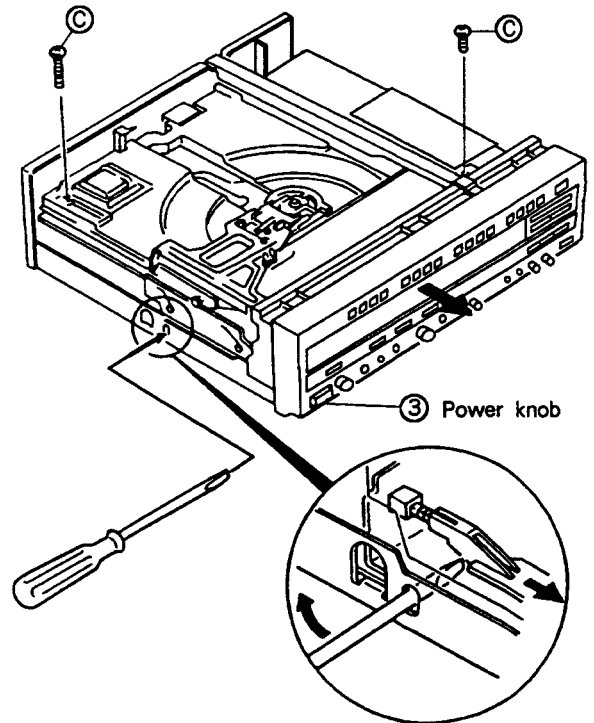

Fig. 7-3
- ③ To remove the power knob, insert the flat-blade screwdriver into the slit on the side of the chassis as shown in Fig. 7-3, and push the protrusion of the knob. You can now remove the power knob easily. (Check that the power switch is in the OFF position before removal.)
7.2 REMOVING THE TRAY (Fig. 7-3, 4)
- ① Remove two stopper screws ③ shown in Fig. 7-3. When the power can be turned ON, press the OPEN button then pull the tray out from the player.